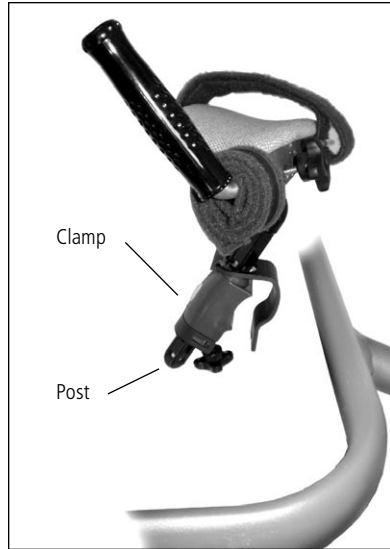
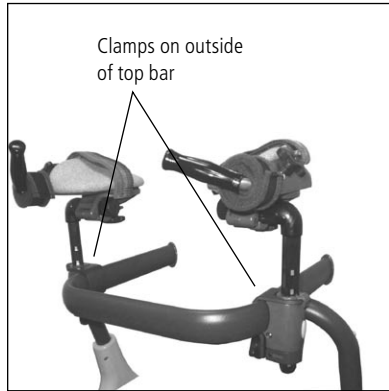
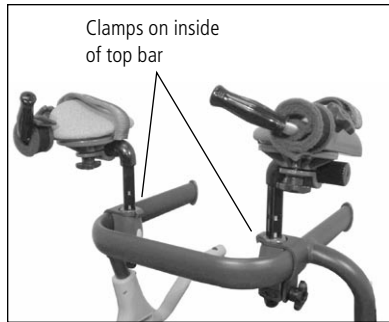
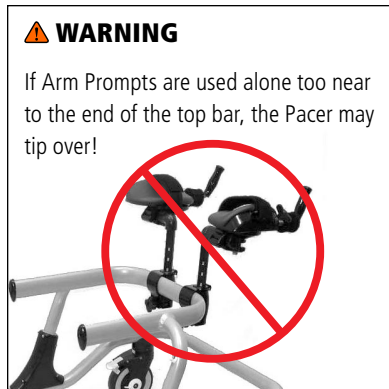

Figure 5
Figure 7
Figure 8
Figure 9
Most accessories are attached to the frame by means of clamps and posts. Figures 5 & 6 show how to attach the clamps to the top bar of the Pacer.
It is recommended that the Arm Prompts are installed forward of the main frame uprights as shown in Figure 8 and 9. This creates stable positioning and leaves plenty of room for the remaining accessories. Refer to Figure 9 for important safety information.
Figure 7 shows the Arm Prompt clamps installed on the outside of the top bar. For users with narrower bodies, the clamps for any accessory can be installed on the inside of the top bar as shown in Figure 8. This allows the prompts to be positioned closer in. See Figure 5, 6 and 13 to re-position clamps and posts.
- Or completely remove the Arm Prompt from the Pacer as described in Figures 5 & 6.
- See Figures 5 and 6 for instructions on how to remove and re-attach the clamps.
- Place clamps on the inside or the outside of the top bar (Figures 5 & 6).
- Use knob (A) to slide sides of Chest Prompt in or out.
- Loosen knobs (C).
- Slide Chest Prompt backward or forward on the frame, and retighten knobs (C).
- Or completely remove the Chest Prompt from the Pacer (Figures 5 & 6).
- Loosen knob (A).
- Or completely remove the Handholds and clamps from the Pacer (see Figures 5 and 6).